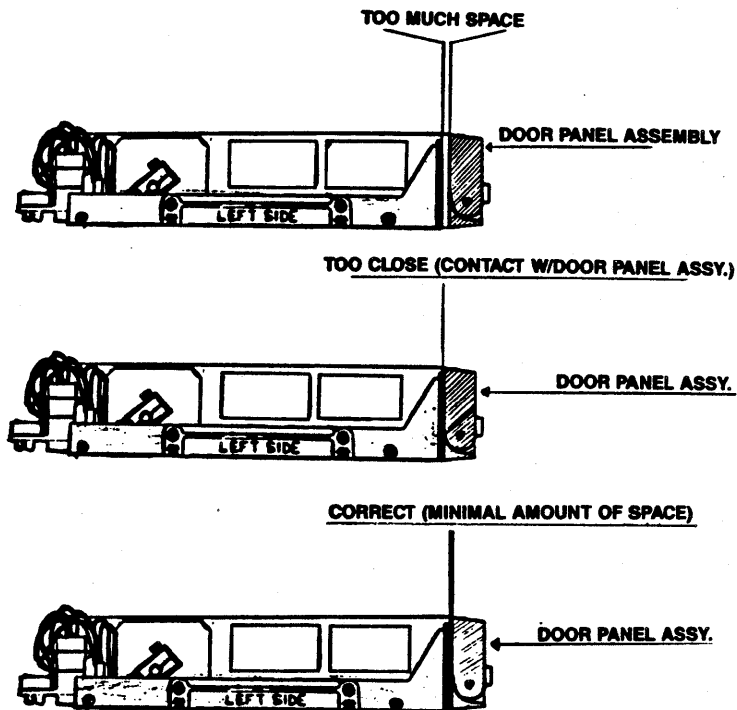

FIGURE 10-2
2. Slide the left side bracket assembly forward to the door panel assembly until the two assemblies make contact. Move the bracket assembly back enough to break contact with the door panel assembly (See Figure 10-2) and tighten the mounting screws.